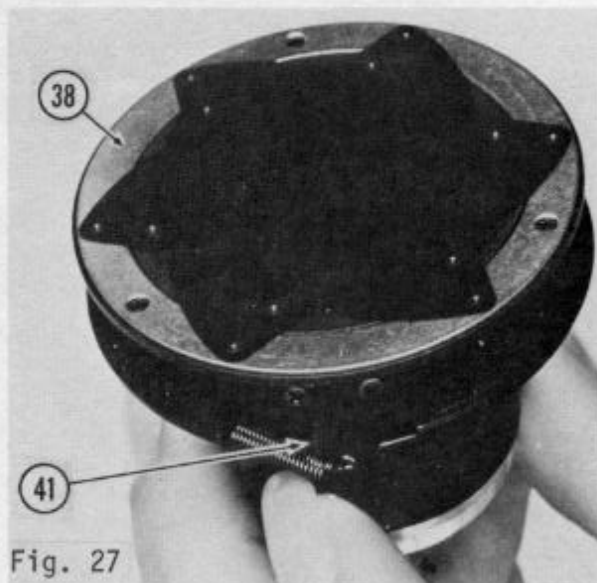

Fig. 27
- 4.2.2 Rotate Diaphragm Lever (41) until all blades clear outer edge of Diaphragm Blade Ring (38), as shown in Fig. 27.